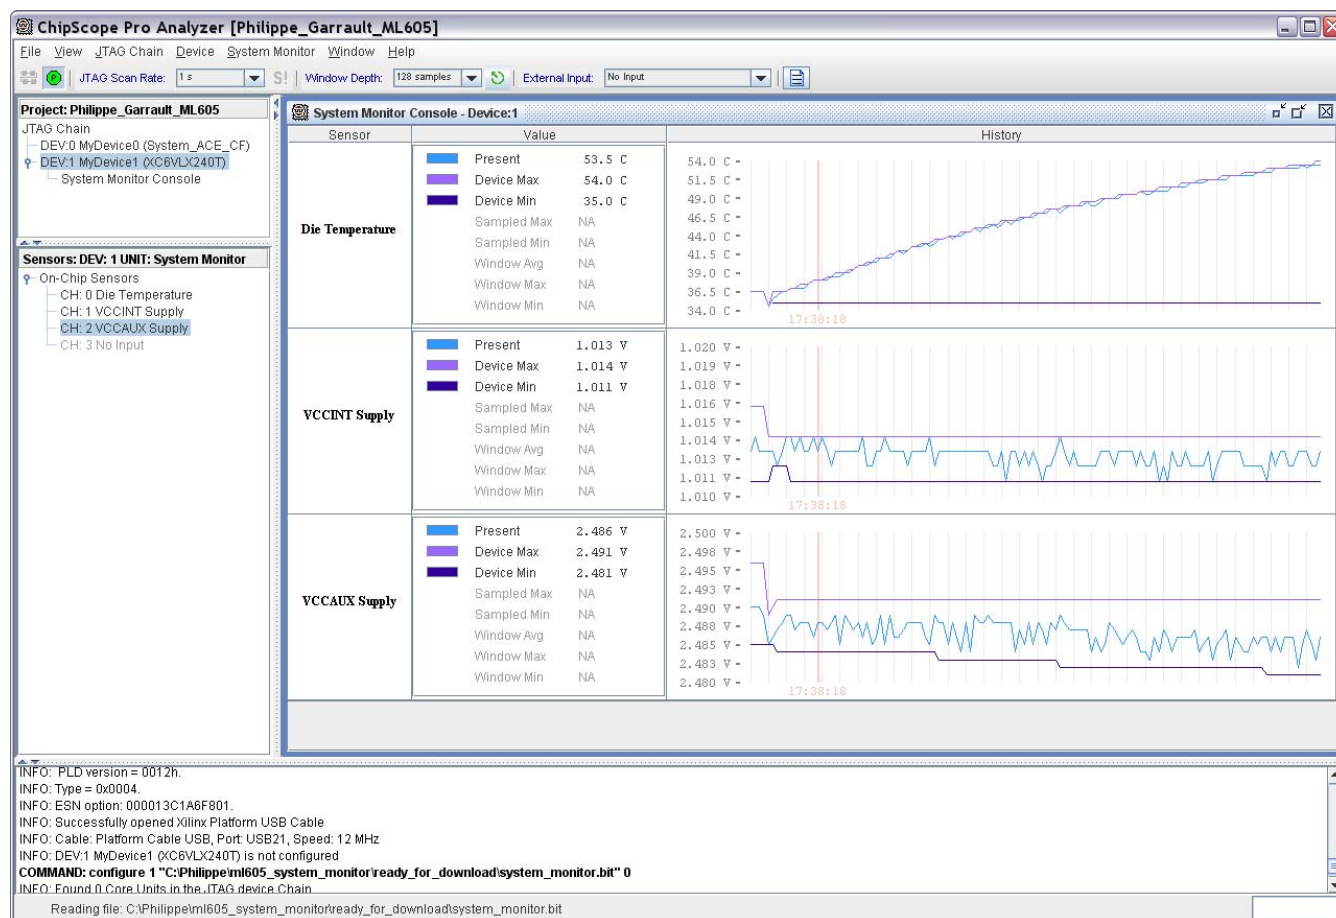

Figure 3-4: Voltage and Junction Temperature Monitoring with ChipScope
- **On-board Monitoring** – The latest Xilinx device families provide internal sensors and at least one analog-to-digital converter to measure supplied voltages and device temperature. The ChipScope utility provides real-time JTAG access to measure the different supply source voltages or device junction temperature before and after device configuration (see Figure 3-4). You can also instantiate a System Monitor or XADC component in your code to access these measurements from your FPGA application.
- On-board Monitoring** – Thermal measurements are possible and use the same mechanisms as power measurements. You can use ChipScope before and after device configuration (see Figure 3-4), or use the System Monitor primitive within your design to read the device junction temperature.